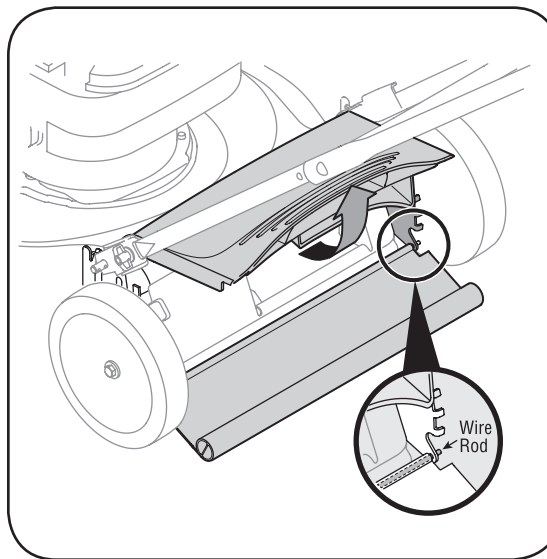

Figure 5-3: Cut wire rod to remove the rear flap.
1. To remove rear flap, cut off the flat end of the wire rod which secures it to the deck. See Figure 5-3.